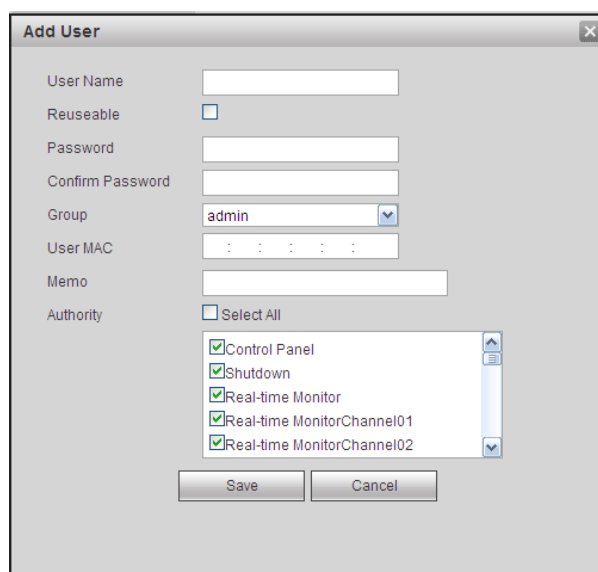

Figure 5-46
**Add user:** It is to add a name to group and set the user rights. See Figure 5-46.